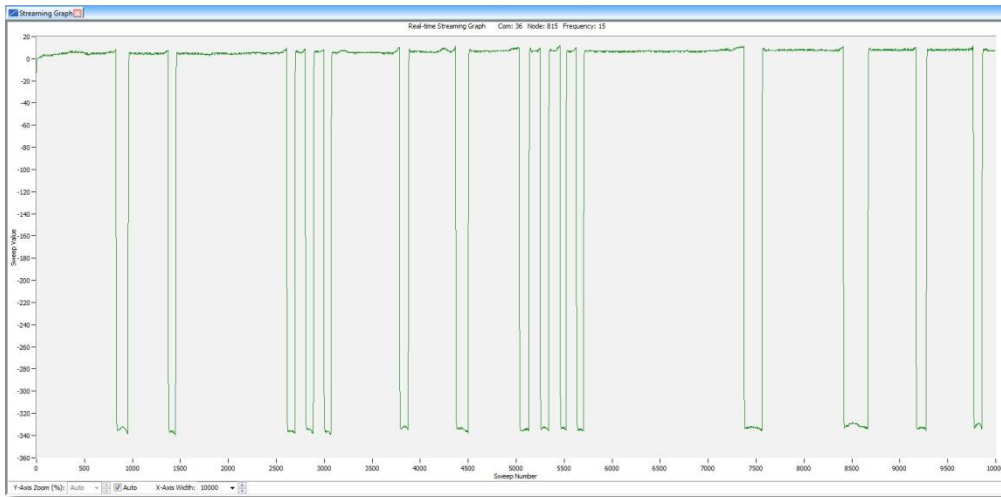

Figure 5: Streaming Graph
- During the streaming, push and release the button on the Tester Board to shunt the 350 ohm resistor in and out of the stream. This will appear as a stepped (green) line as shown in Figure 5. As expected, steps will be \sim 350 μ -strain.